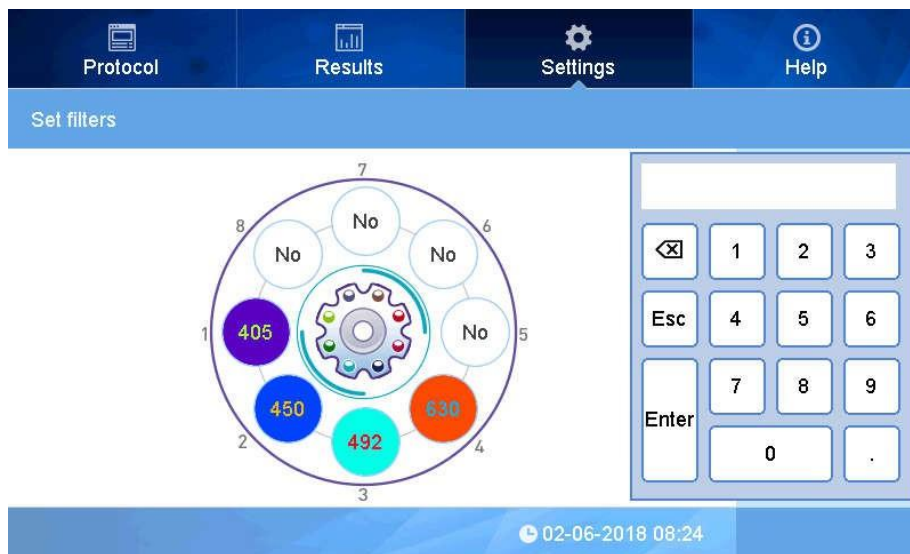

Fig.49
- lick the blank position No., input the wavelength, default unit is nm(Fig 49).